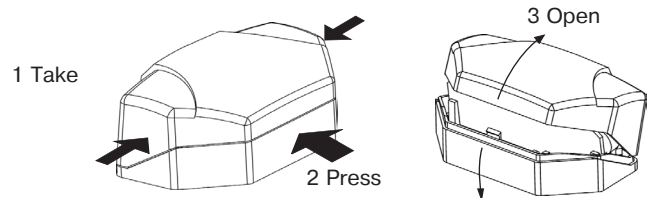

Figure 3
9.1 Remove the cover. For this purpose take the upper cover by one hand for its side walls. By other hand push the back wall of the Detector base (Figure 3), press the cover edges and put off the Detector cover.